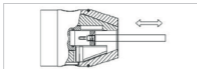

Figure 11: Pulling out threaded pin
3. Pull the assembly tool and threaded pin out of the precision drill chuck (see "Figure 11: Pulling out threaded pin").